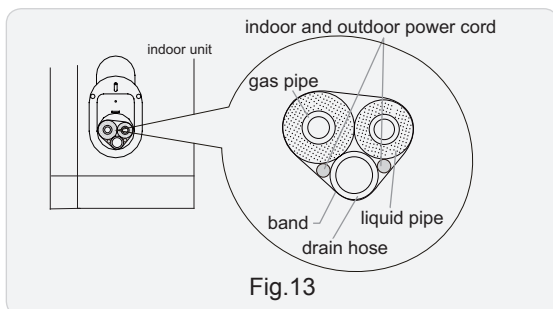

Fig.13
- (1) Bind up the connection pipe, power cord and drain hose with the band. (As show in Fig.13)